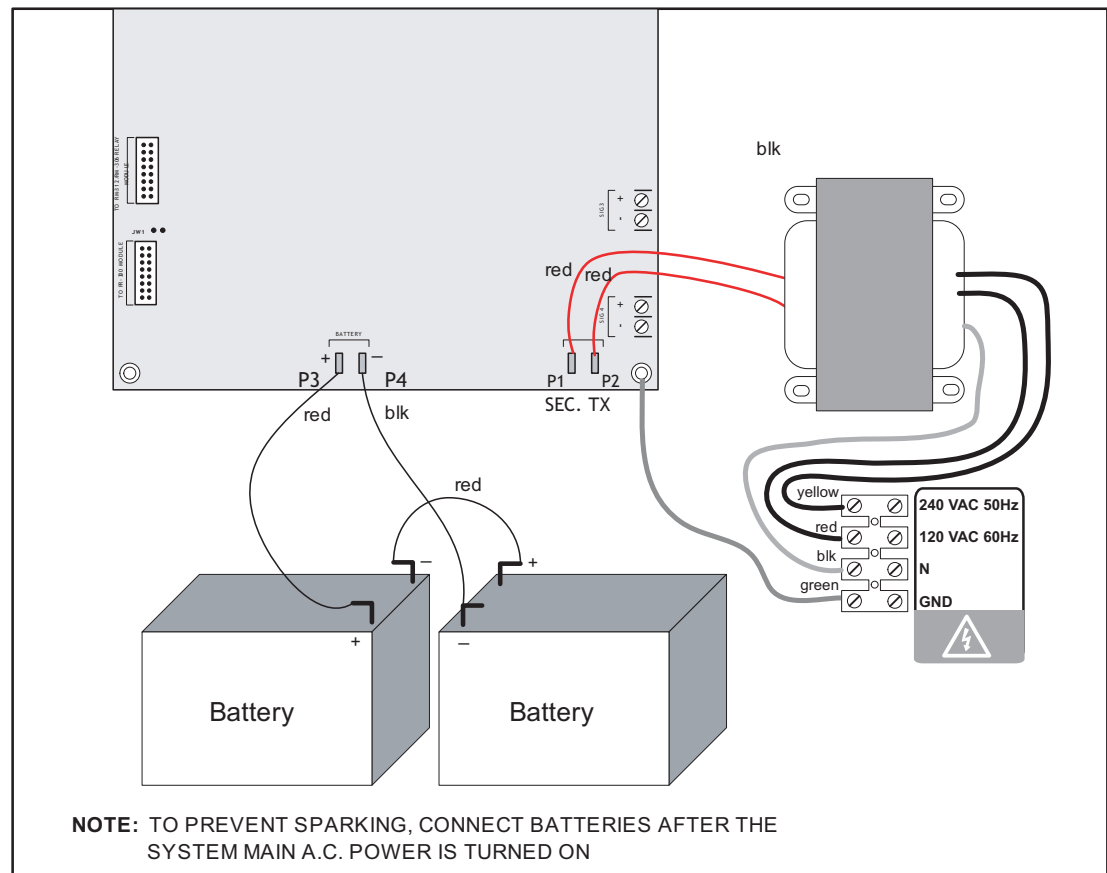

Figure 28 Battery connections
3. Connect the batteries as shown in Figure 28. Observe the correct polarity: the red wire is positive (+) and black wire is negative (-).